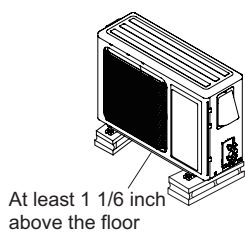

Fig. 18
- (1) Take sufficient protective measures when installing the outdoor unit.
- (2) Make sure the support can withstand at least four times the unit weight.
- (3) The outdoor unit should be installed at least 1 1/6inch above the floor in order to install drain joint.(As show in Fig.18)
- (4) For the unit with cooling capacity of 2300W~5000W, 6 expansion screws are needed; for the unit with cooling capacity of 6000W~8000W, 8 expansion screws are needed; for the unit with cooling capacity of 10000W~16000W, 10 expansion screws are needed.